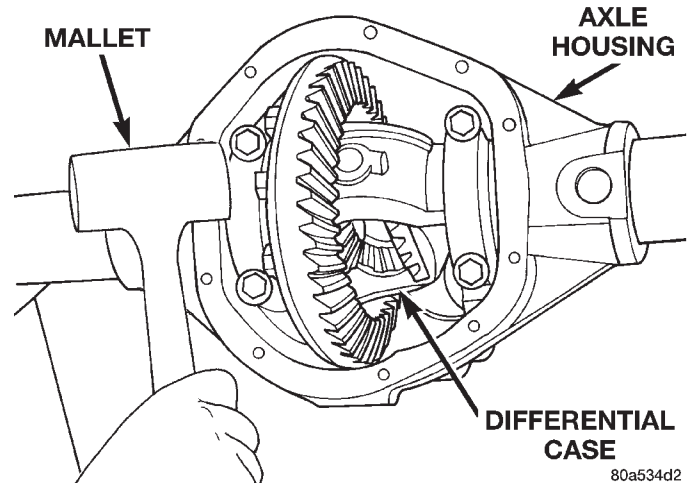
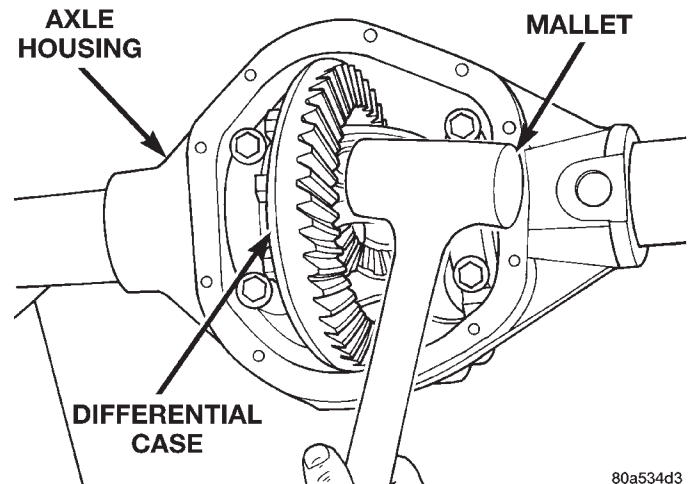
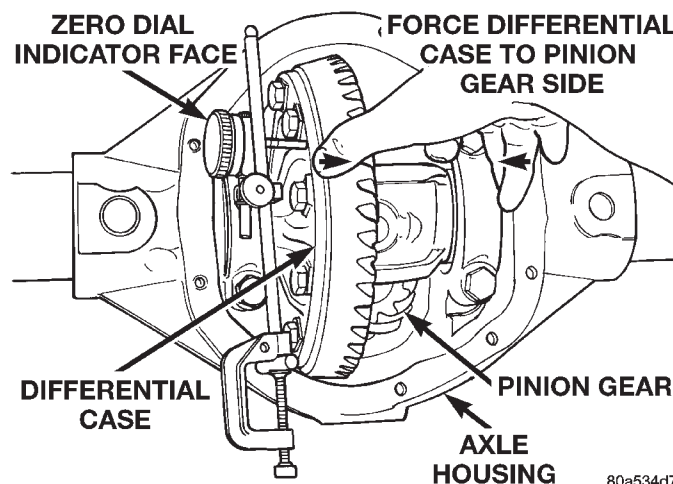

Fig. 48 Seat Pinion Gear Side Differential Dummy Side Bearing—Typical
Fig. 49 Seat Ring Gear Side Differential Dummy Side Bearing—Typical
Fig. 52 Hold Differential Case and Zero Dial Indicator—Typical
(7) Using a dead-blow type mallet, seat the differential dummy bearings to each side of the axle housing (Fig. 48) and (Fig. 49).
(14) Add 0.010 in. (0.25 mm) to the zero end play total. This new total represents the thickness of shims to compress, or preload the new bearings when the differential is installed.
(15) Rotate dial indicator out of the way on the guide stud.
(16) Remove differential case and dummy bearings from axle housing.
(17) Install the pinion gear in axle housing. Install the pinion yoke, or flange, and establish the correct pinion rotating torque.
(18) Install differential case and dummy bearings 6928 in axle housing (without shims), install bearing caps and tighten bolts snug.
(19) Seat ring gear side dummy bearing (Fig. 49).
(20) Position the dial indicator plunger on a flat surface between the ring gear bolt heads.
(21) Push and hold differential case toward pinion gear (Fig. 52).
(22) Zero dial indicator face to pointer (Fig. 52).